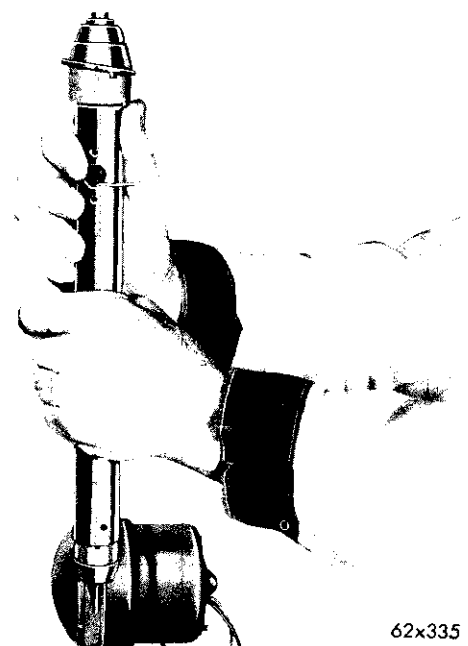

Fig. 9—Installing Mast Support
(3) Push the outer mast section down into the tubular fitting. Make sure that the upper edge of the flange on the insulator bushing is below center of the 3 holes in the tubular fitting.
(4) Install the support tube assembly in proper position making sure the hook-up wire is extended through the large hole in the body (Fig. 9).
(5) Install the (3) screws to attach the support tube assembly to the motor and drive assembly.
(6) Solder the hook-up wire to the pin.
(7) Assemble the lead-in receptacle with the (2) screws.
(8) Apply 12 volt power to the "yellow" and "brown" antenna leads and test for up and down operation.